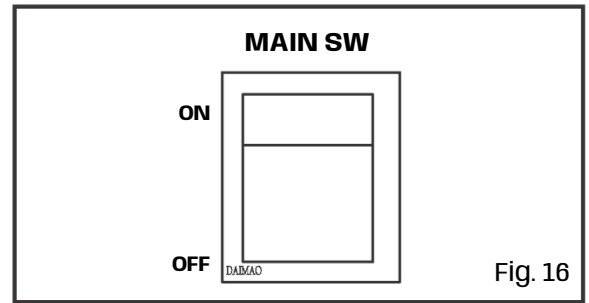

Fig. 16
- 3-1. Turn the MAIN switch to the "ON" position (Fig. 16).